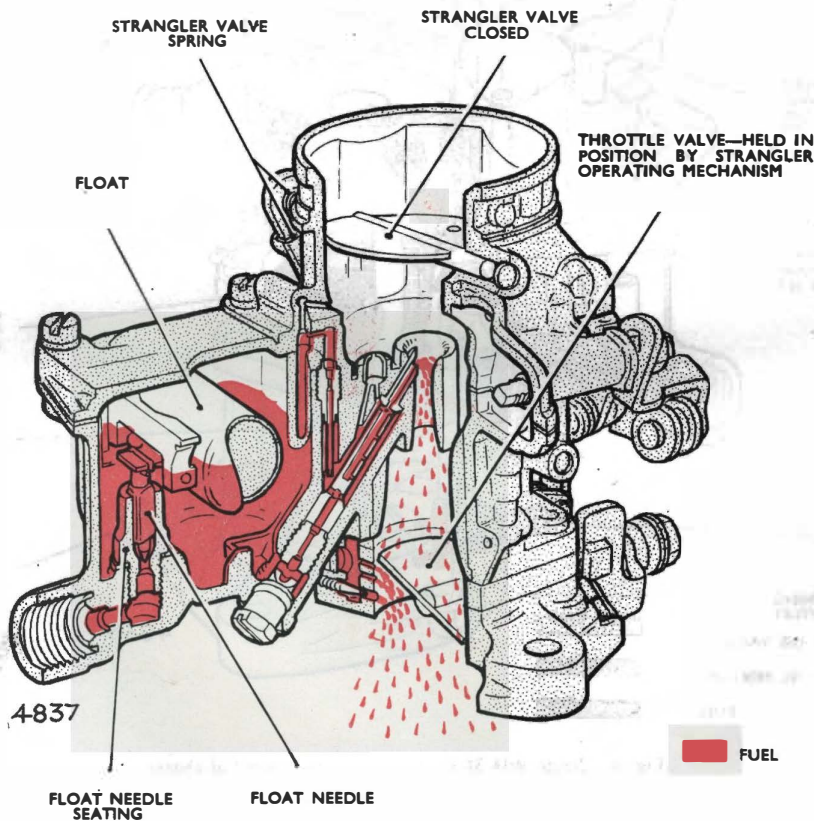
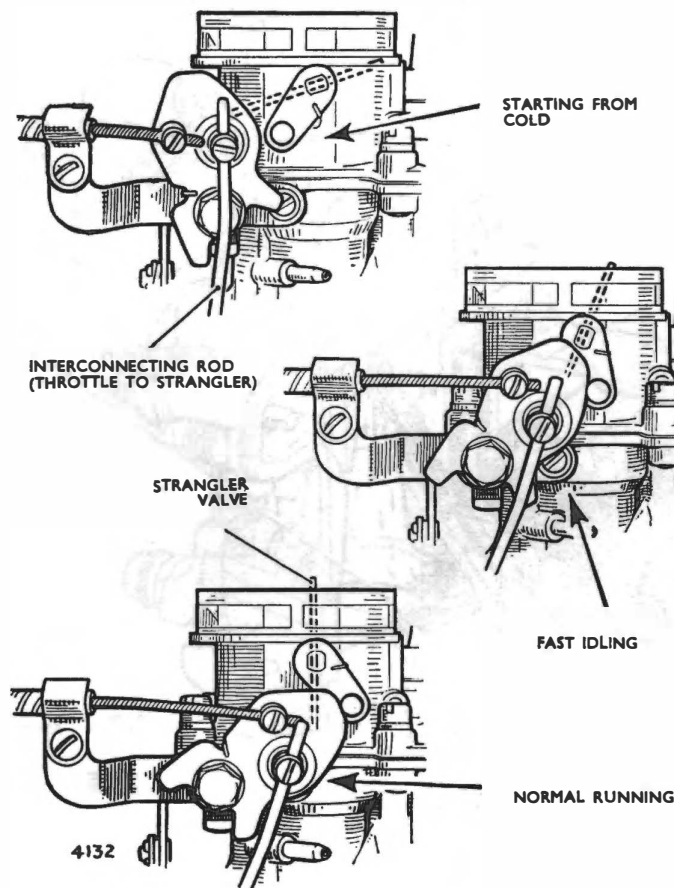

Fig. 7. Cold starting operation
Fig. 8. Strangler cam positions
#### Float Chamber (See Fig. 7)
**Starting from cold (See Fig. 7)**
The carburettor strangler mechanism and various positions taken by the cam lever are shown in Fig. 8 and the carburettor action when starting, in Fig. 7.